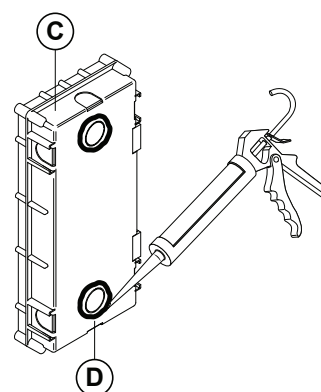

Fig. 61
**Before fitting the flush box (C) into the wall it is recommended that in order to prevent water ingress a silicon sealant is used between the wall and the flush box (C) (Fig.61) and around the flush box openings (D) (Fig.61);**